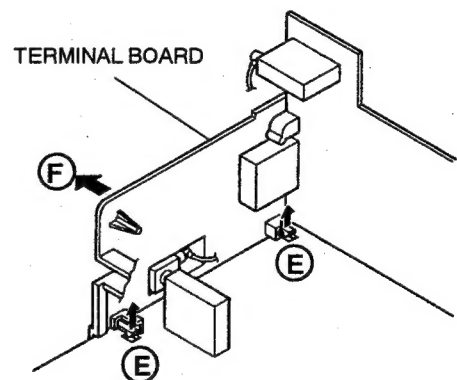

Fig. 1
2. After removing the claw marked **E** in the direction of arrow mark as shown in Fig.1.
3. When you pull out the AV TERMINAL BOARD in the direction of arrow marked **F** as shown in Fig.1, it can be removed.
(1) Power off Switch off the power and disconnect the power cord from the outlet.
(2) Replace the memory IC. Be sure to use memory ICs written with the initial data values.
(3) Power on Connect the power cord to the outlet and switch on the power.
(4) System constant check and setting <ol style="list-style-type: none"> [AV-36870 : RM-C885] Simultaneously press the DISPLAY key and VIDEO STATUS key of the remote control unit. [AV-36850 : RM-C745] Simultaneously press the OSD key and STATUS key of the remote control unit. [AV-36850 : RM-C745] The SERVICE MENU screen of Fig.1 is displayed. While the SERVICE MENU is displayed, again simultaneously press the DISPLAY (OSD) and VIDEO STATUS (STATUS) keys to display the Fig.2 SYSTEM CONSTANT screen. Refer to the SYSTEM CONSTANT table and check the setting items. Where these differ, select the setting item with the MENU UP / DOWN key and adjust the setting with the MENU LEFT / RIGHT keys. (The letters of the selected item are displayed in yellow.) After adjusting, release the MENU LEFT / RIGHT key to store the setting value. Press the EXIT key twice to return the normal screen. 	 <p>Fig.1</p>
(5) Receive channel setting Refer to the OPERATING INSTRUCTIONS (USER' S GUIDE) and set the receive channels (Channels Preset) as described.
(6) User settings Check the user setting items according to Table 2. Where these do not agree, refer to the OPERATING INSTRUCTIONS (USER' S GUIDE) and set the items as described.
(7) SERVICE MENU setting Verify what to set in the SERVICE MENU, and set whatever is necessary. (Fig.1) refer to the SERVICE ADJUSTMENT for setting.	 <p>Fig.2</p>